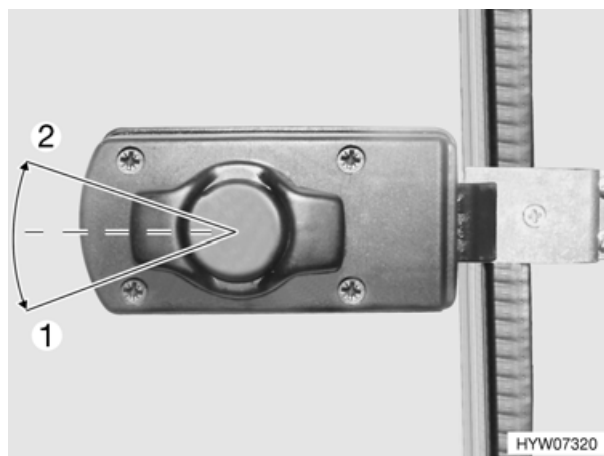
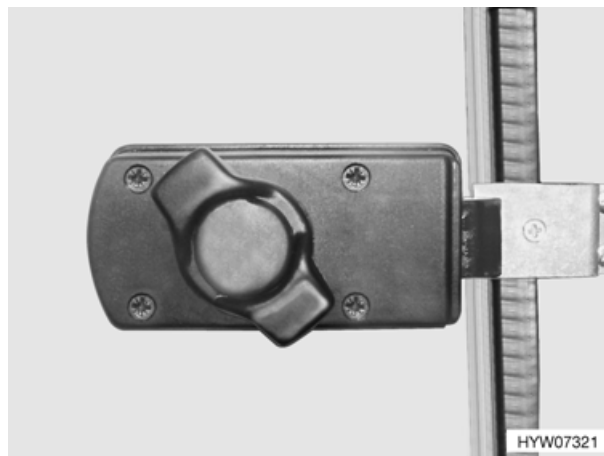

Fig. 12 Door lock of conversion door, inside, open
Fig. 13 Door lock of conversion door, inside, closed
- Turn the knob in an anticlockwise direction (Fig. 12,1).
- Turn the door knob approx. 45° in a clockwise direction and leave in this position (Fig. 12,2 and Fig. 13).